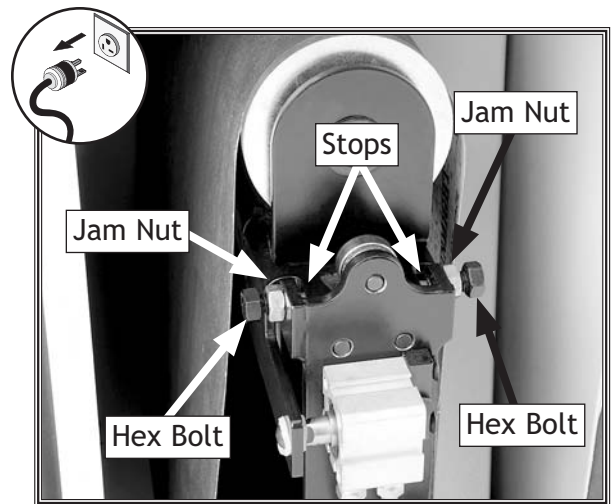

Figure 23. Sanding belt oscillation stops.
2. Open the sanding belt access door and identify the oscillation stops shown in **Figure 23**.